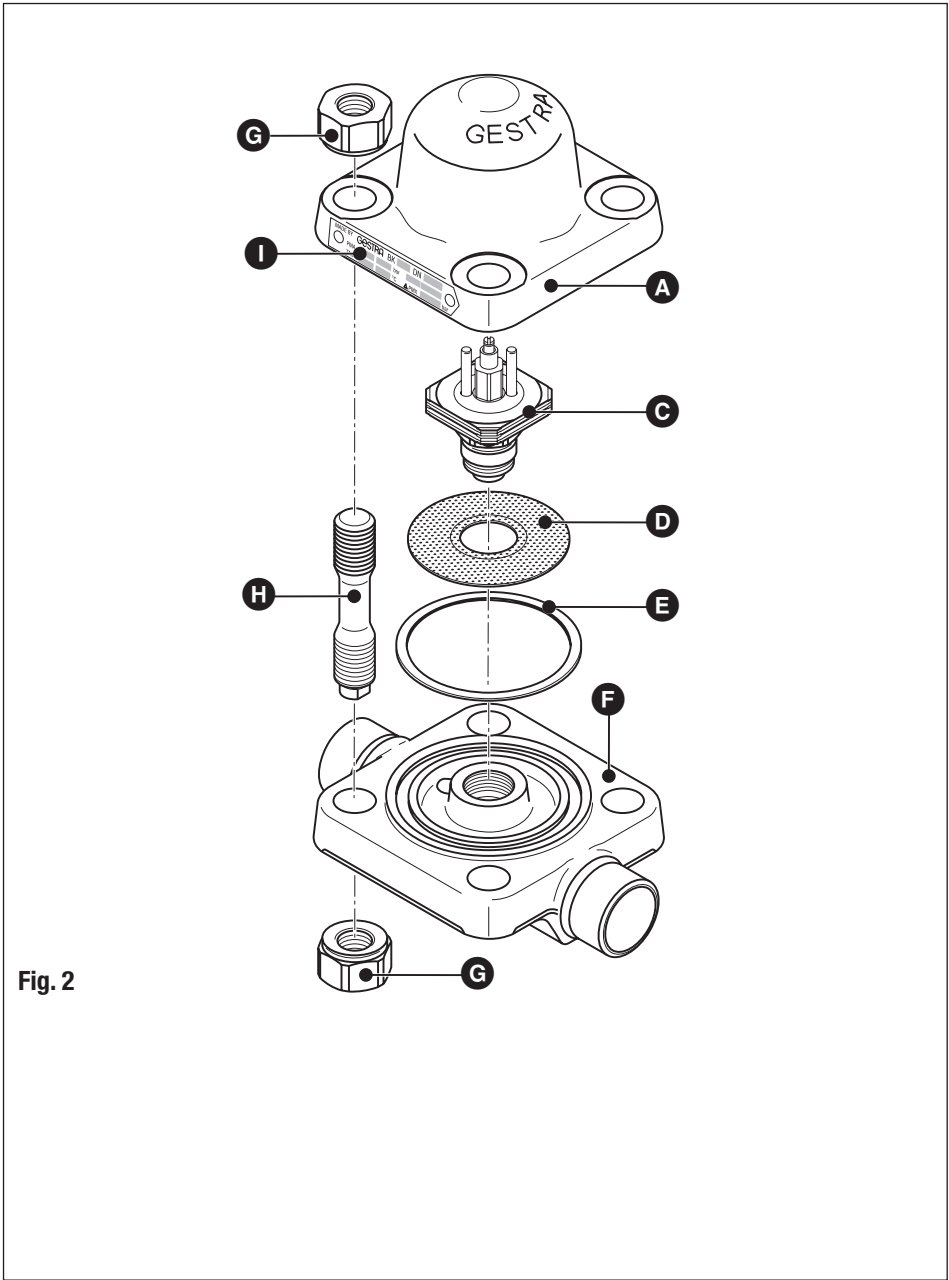
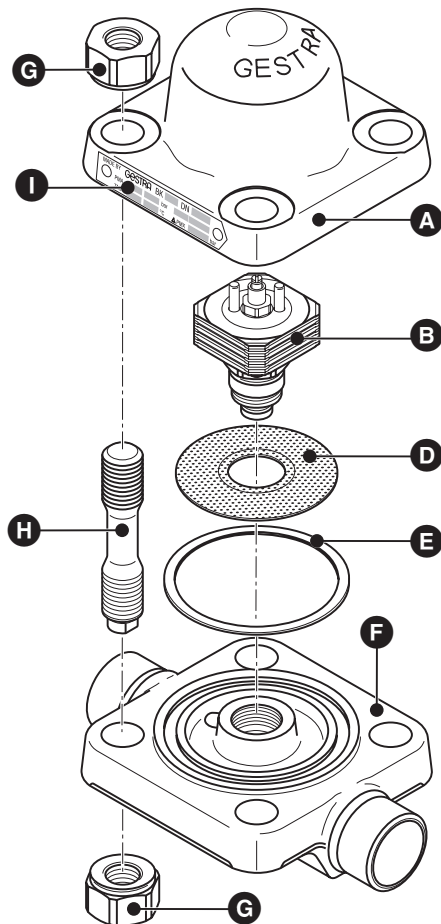

Fig. 2
Fig. 3
1. Remove cover **A** from body **F**, **Fig. 2, Fig. 3**